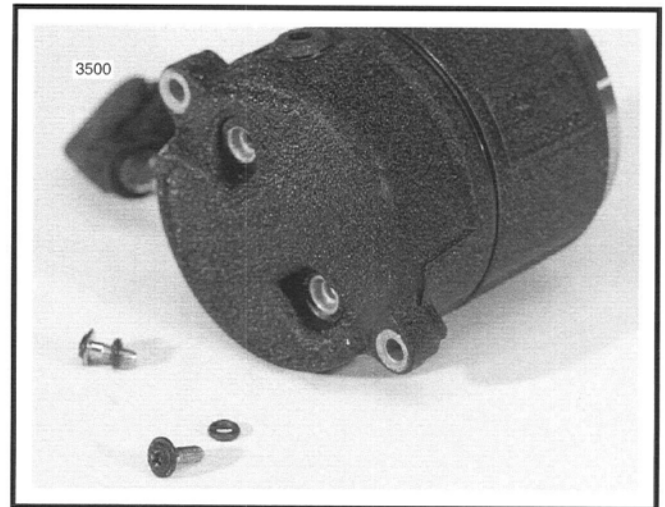

Figure 71. Remove End Capscrews and O-Rings
3. See Figures 71 and 72. Remove the end cap screws (5) and cap (4).